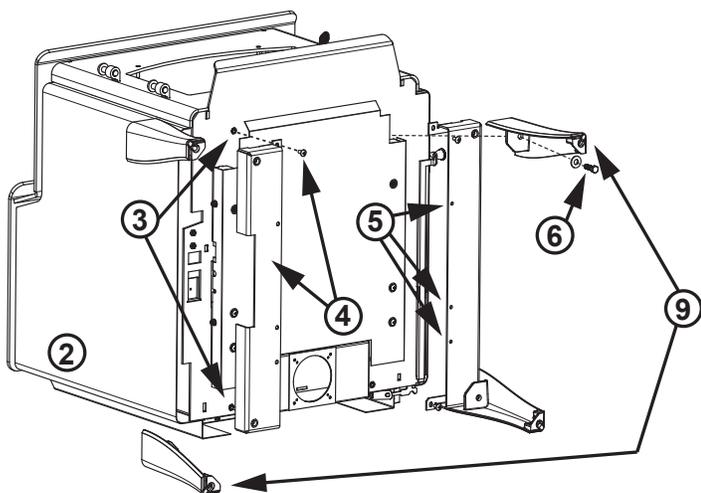

Figure 24.1
3. Remove four screws from bottom of appliance (**Figure 24.1**).
NOTE: There is a right and a left of the leg brackets (**Figure 24.1**).
5. Install six screws to the bottom of the leg brackets (**Figure 24.1**).
NOTE: Legs with leveling bolts need to be on opposite sides of the appliance - one in the front and one in the back (**Figure 24.1**)